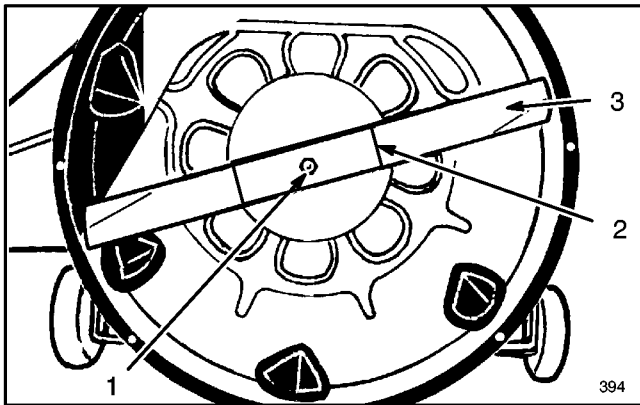

Figure 20
6. Grasp the end of the blade using a rag or thickly padded glove; then remove the blade bolt, washer, blade stiffener and blade (Fig. 20).
9. In sequence, install the blade, the blade stiffener, washer and blade bolt (Fig. 20). Install the concave side of the curved washer against the blade. Tighten the blade bolt to 45-60 ft-lb (61-81 Nm).